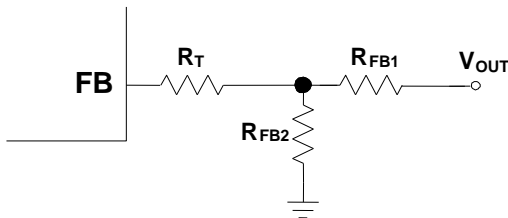

Figure 4: T-Type Feedback Network
The external resistor divider connected to FB sets the output voltage (see Figure 4). The feedback resistor (R1) also sets the feedback loop bandwidth with the internal compensation capacitor. Choose R_{FB1} to be about 40kΩ when V_{OUT} ≥ 1V. R_{FB2} can then be calculated with Equation (1):
A T-type network is highly recommended when V_{OUT} is low (see Figure 4).